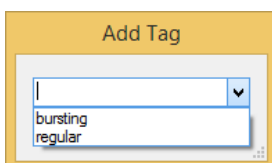

Figure 13: Tag Dialog
- **Tag:** This opens a dialog where one can add a tag to all currently selected units (Figure 13). Either select an already present tag from the drop-down menu or enter a new one.